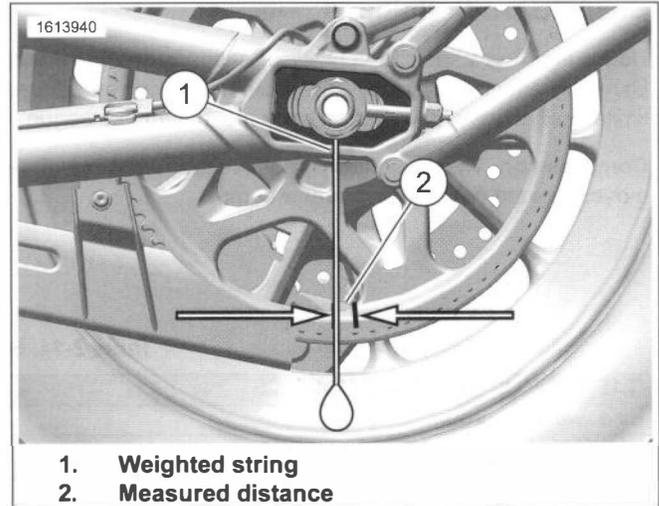

Figure 2-31. Check Compensator Wear
2. See Figure 2-31. Hang a weighted string (1) on left axle spacer without touching the drive belt.